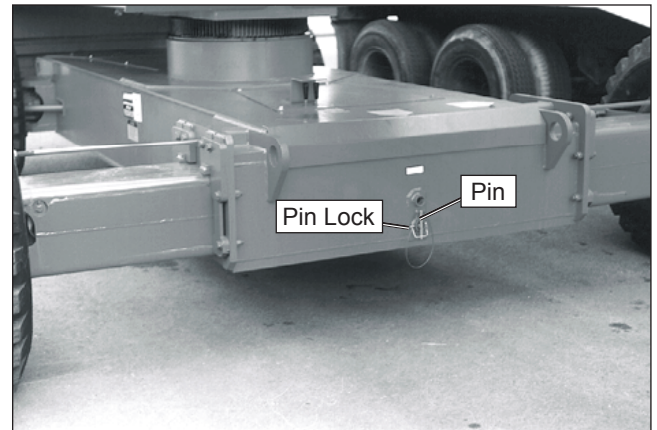

Figure 8.4 – Axles Extended and Pinned
5. Fully install the pin in the lower hole in the chassis (refer to Figure 8.4) and install the pin lock through the pin and the lip around the hole.